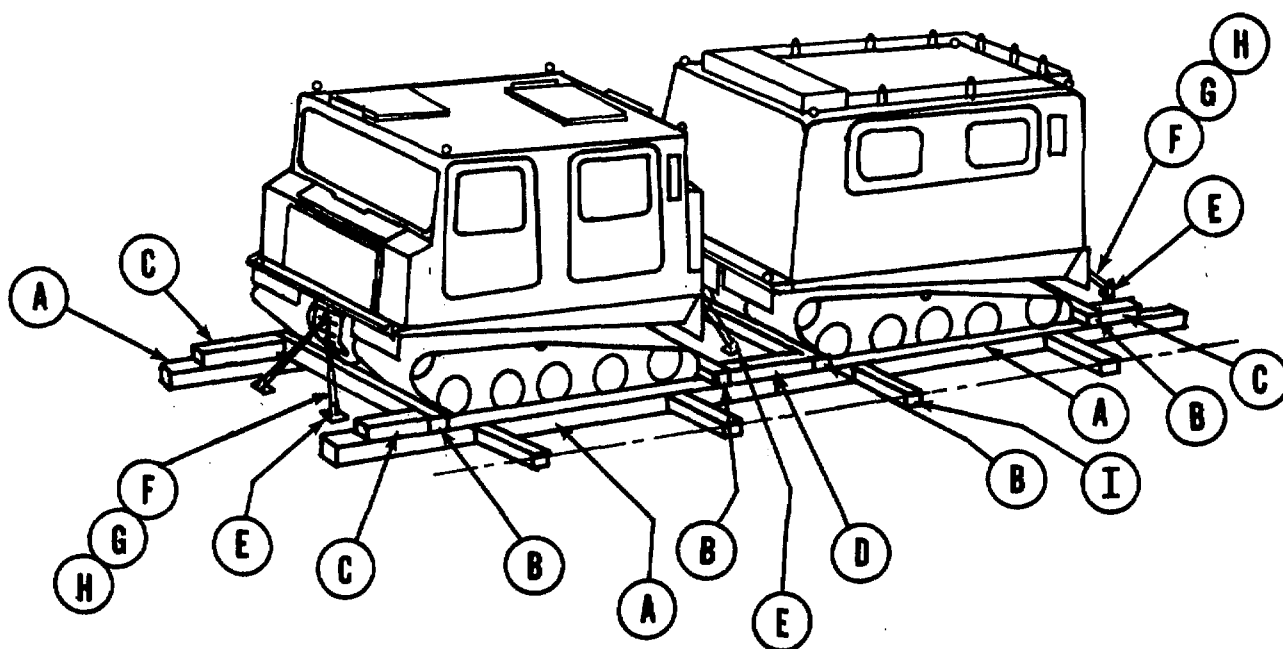

Figure 6-2. Blocking and tiedown on the M973 in a general cargo vessel.
a. *Securing.* The M973 must be secured by blocking the tracks with timbers at the front and rear and on both sides. The bracing timbers are force-fitted to a bulkhead, stanchion, or the blocking of an adjacent vehicle. The M973 must be lashed with turnbuckles and wire rope from the vehicle tiedown fittings to the bulkheads, stanchions, or deck fittings (such as pad-eyes or D-rings). Figure 6-2 shows typical blocking and tiedown details. Table 6-1 lists the materials for blocking and tiedown, and table 6-2 explains how to apply these materials.
Table 6-1. Bill of Materials for Blocking and Tiedown of the M973 in a General Cargo Vessel (Fig 6-2).
Table 6-2. Application of Materials for Blocking and Tiedown of the M97s in a General Cargo Vessel (Fig 6-2).